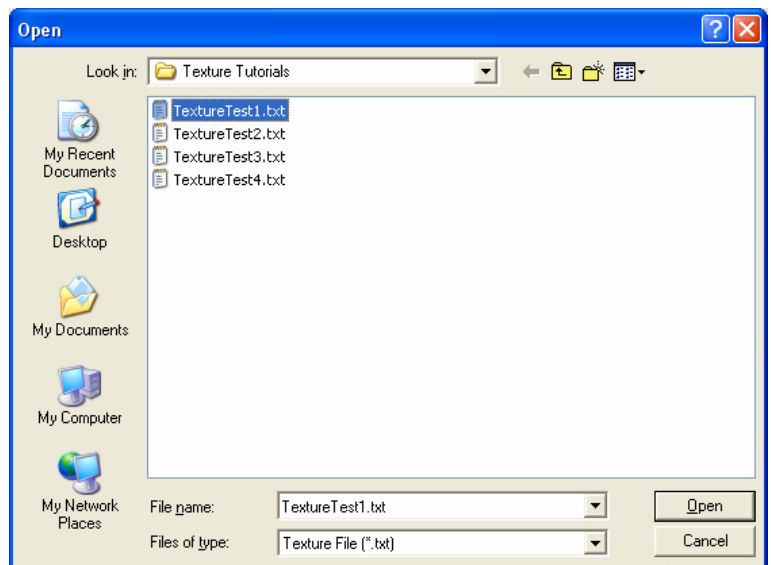

Figure 21. Open Texture File dialog.
6. From the Open dialog (Fig. 21), navigate to the location of TextureTest1,